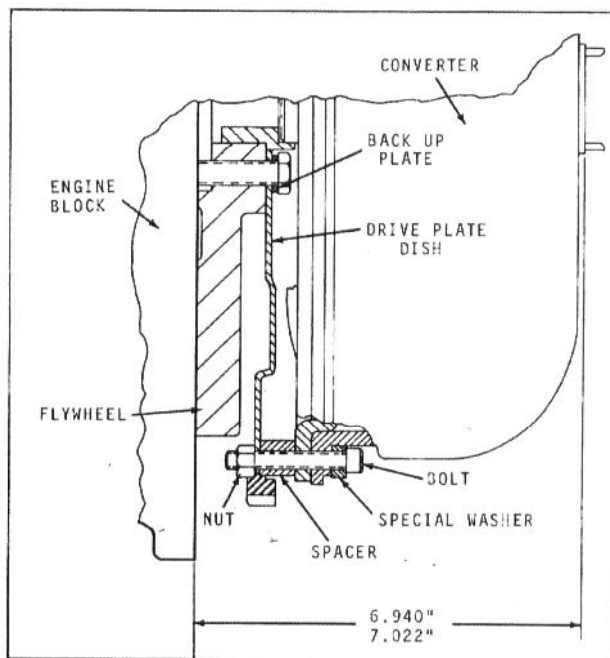

FIG. 8 — CUTAWAY ILLUSTRATION OF TORQUE CONVERTER INSTALLED ON GASOLINE ENGINES
ON GASOLINE MODEL TRACTORS — Refer to Fig. 8 and install drive plate with dish in plate toward the converter.
NOTE: The back-up plate shown in Figs. 8 and 9 must be installed with bevel edge against plate.
2. Attach converter to drive plate, tightening bolts to 22 ft.-lbs. torque. See Figs. 8 and 9 for arrangement of bolt, special washer, spacer and nut.